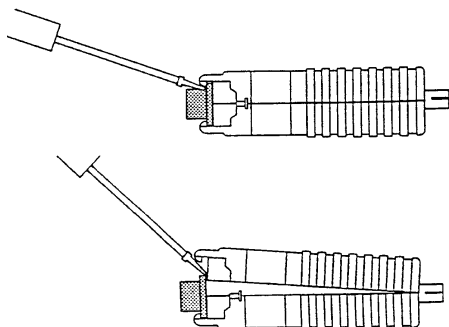

Figure 2. Use a small screwdriver to open the Model 1110 case.
- 1) Open the Model 1110 case by inserting a small flat-blade screwdriver between the case lip and DB-25 connector and twisting gently (see Figure 2).